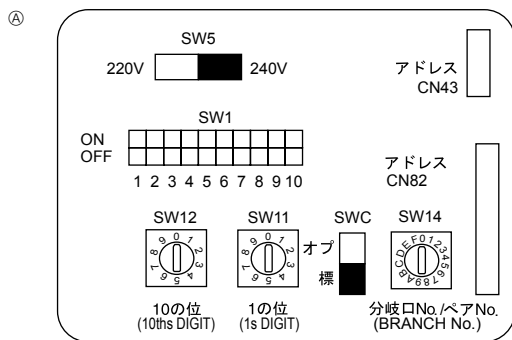

Fig. 7-4
7.5. Setting addresses (Fig. 7-4)
7.6. Sensing room temperature with the built-in sensor in a remote controller (Fig.7-4)